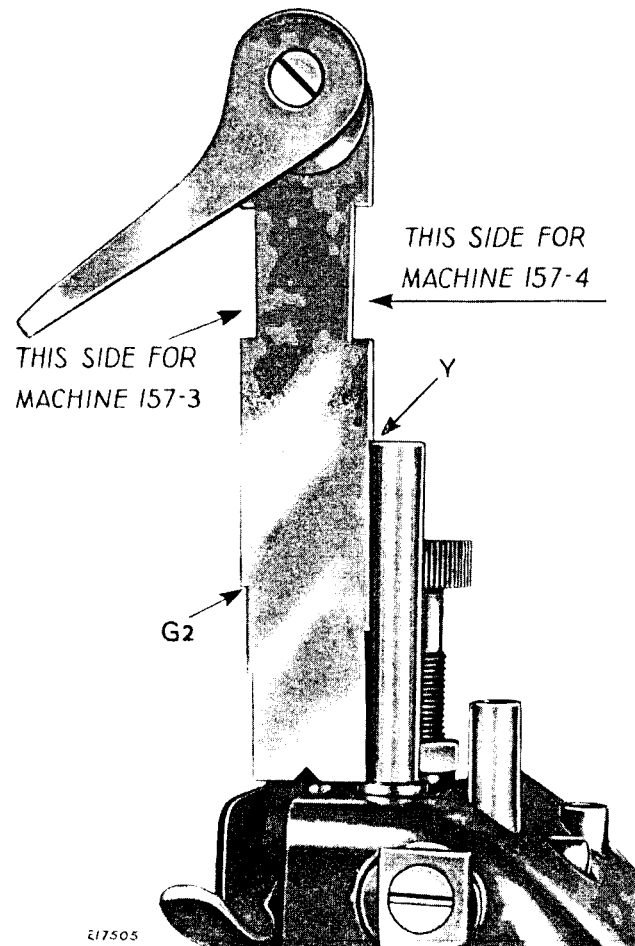

Fig. 12. Setting Needle Bar for Highest Position
**Y or G2**—To set the needle bar correctly for its highest position, as illustrated in Fig. 12. Turn balance wheel over from you until the needle bar is at the top of its stroke, as instructed on page 15.